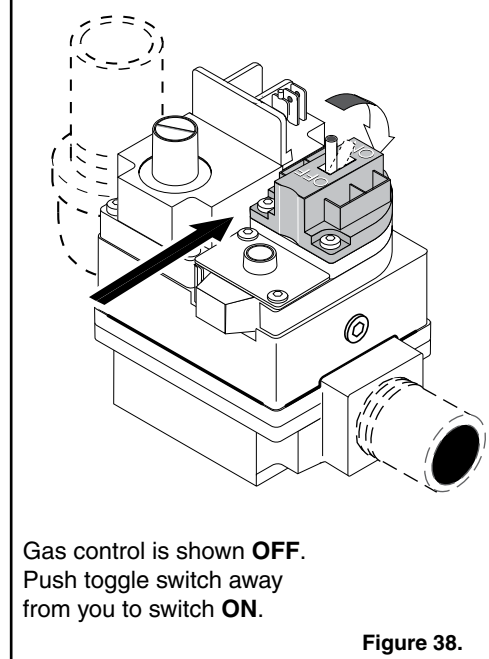

Figure 38.
3. Turn off all electric power to the appliance. **Turn OFF the Manual Shut-Off Valve**, see Figure 38.
6. **Toggle-Style Valve:** Pull toggle toward you to turn gas off , see Figure 38.
7. Wait five (5) minutes to clear out any gas. **If you then smell gas, STOP! Follow “B” in the “Before Start-up” instructions (page 38). If you don’t smell gas, go to the next step.**
4. **Toggle-Style Valve:** Pull toggle toward you to turn gas off, see Figure 38.